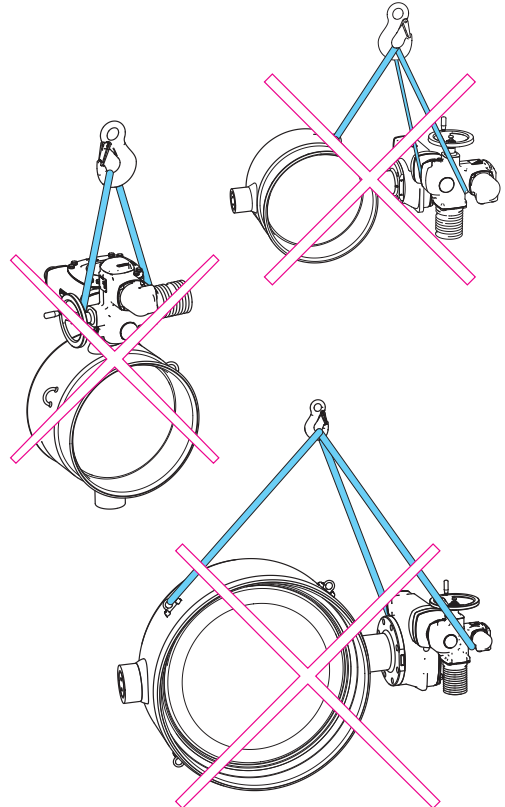
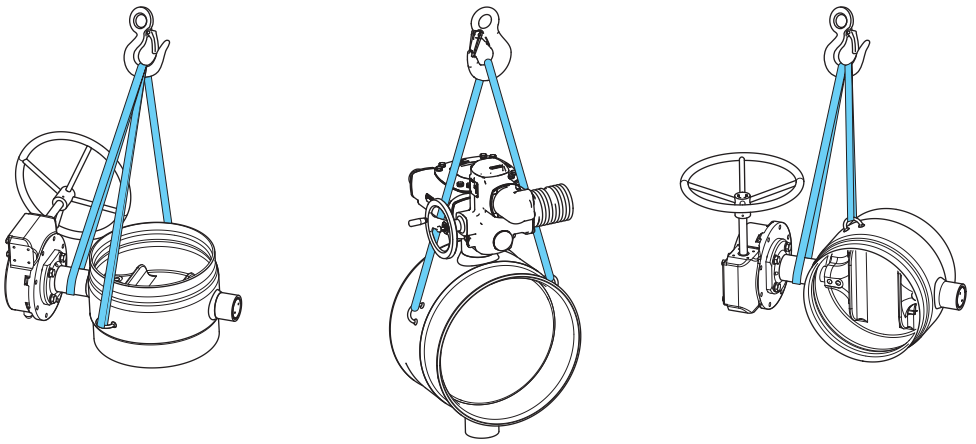

Figure 2. Do not lift the valve by the actuator.
Figure 3. Lifting a valve equipped with 2 lifting lugs.
The valve must always be lifted by its lifting lugs and upper neck (see Figures 3 and 4). The valve or valve assembly must not be lifted from the actuator (see Figure 2). Even light knocks may damage the actuator or affect the actuator and valve adjustments.
- The valve or valve assembly must not be lifted by the actuator. If the valve is equipped with lifting lugs, use the lugs (see Figures 3 and 4). Dropping or incorrect lifting of the valve can result in personal injury or equipment damage.
- Use one of the allowed lifting methods shown in Figures 3 and 4.